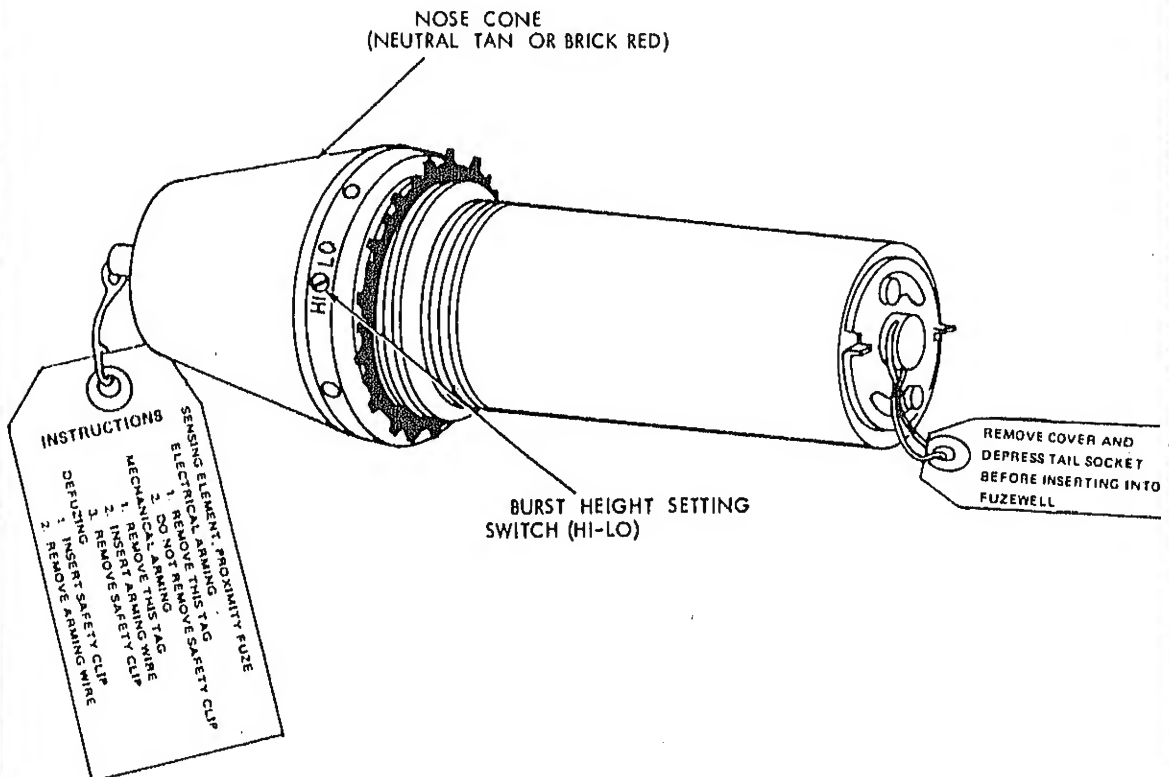

Figure 4.--M20/M20A1 proximity sensing element (external view).
Two VT (proximity) nose elements are available for use in conjunction with Mk 344 and Mk 376 electric tail fuzes, in the electric-fuzed Mk 80 series bombs, in order to obtain an airburst capability. They are (a) the M20 or M20A1 proximity sensing element (PSE) and (b) the Mk 43 Mod 0 target detecting device (TDD). (See figures 4 and 5.)
23. The M20 or M20A1 PSE has a fore-and-aft (forward-looking) lobe pattern. Each utilizes a HI-LO switch that is not found on the Mk 43 Mod 0 TDD. (Look again at figure 4.) This switch provides an option of two burst heights, which must be preflight selected: (a) a burst-height range of 100 to 160 feet for the high range, and (b) 20 to 60 feet for the low range.